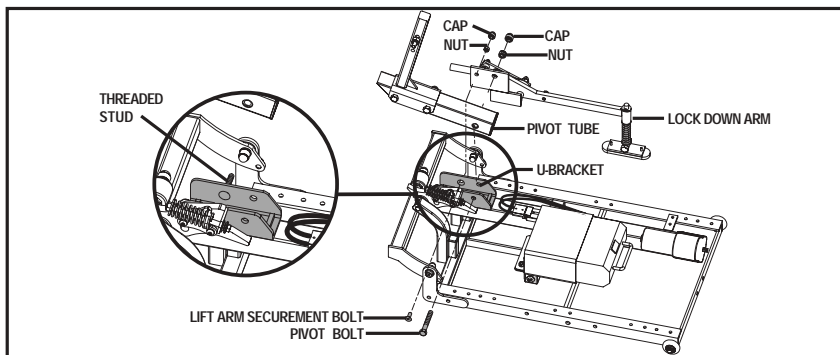

Figure 4. Lock Down Arm Installation
NOTE: If your lift system is equipped with a permanent threaded stud, removal of the pivot tube and pivot bolt is not necessary for lock-down arm installation. See figure 4.
2. Apply power to the lift until there is enough clearance to remove the pivot bolt. See figure 4.
4. Remove the pivot tube. See figure 4.